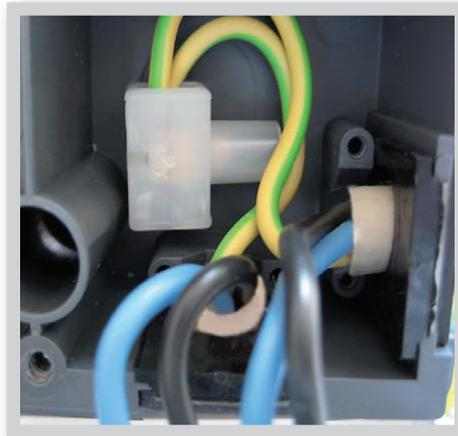

Fig. C 2.1
Fig. C 2.1 a
Fig. C 2.1 b
4. Strip the cable in max. length of 65 mm, insert and fit the cable strain relief. Strip the last 10-11 mm of all the wires (Fig. C 2.1 a).
5. Fix the PE terminal (see Fig. C 2.1 a).
6. Hold the box as shown in Fig. C 2.1 b
7. Press the terminal e.g. with your thumb (Fig. C 2.1 b) or with a suitable screwdriver (Fig. C2.1 d) and wire the cables as shown in diagrams in section D.
8. Lock the housing lid onto the top margin of its bottom counterpart, push the cables inside and close the housing gently (Fig. C 2.1 c and C 2.1 e).
Warning! Mind the cables in order to prevent unintentional pressing the clamps (Fig. C 2.1 a, C 2.1 c and C 2.1 e).
Fig. C 2.1 c
Fig. C 2.1 d
Fig. C 2.1 e
Mind the cables in order to prevent unintentional pressing the clamps. (Fig. C 2.1 e, lateral view).